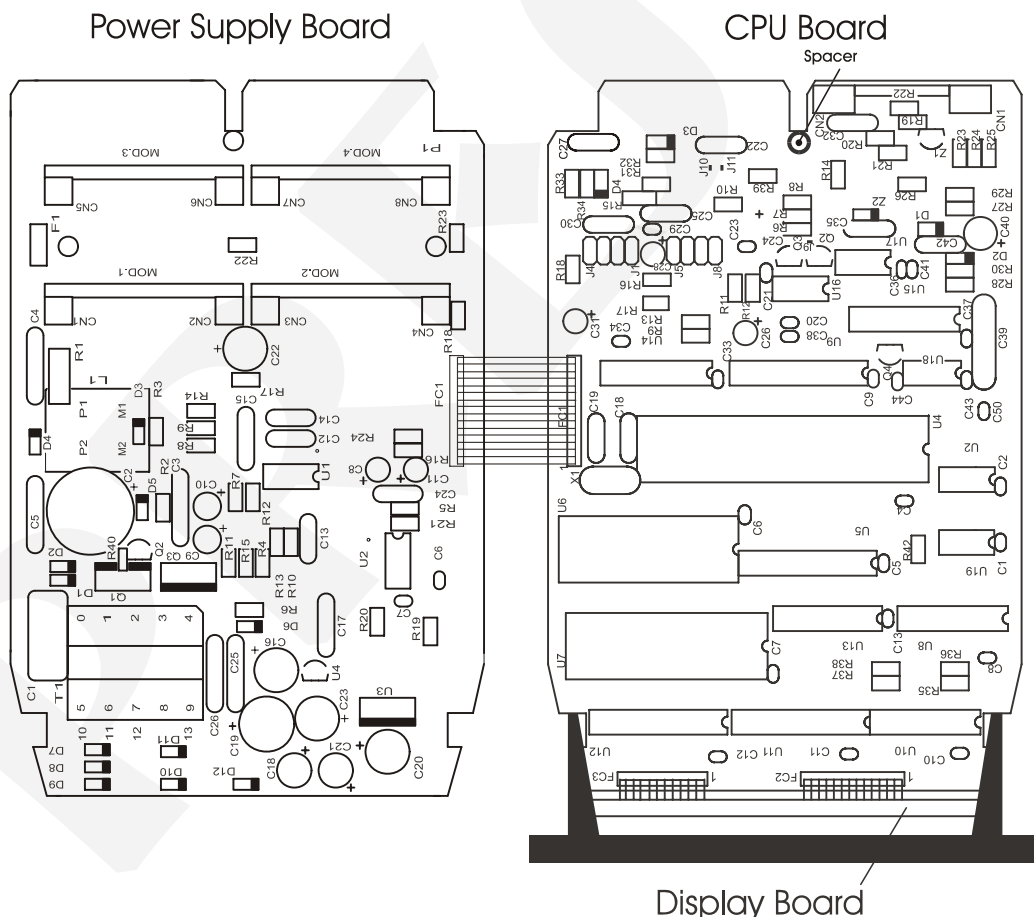

Fig. 16 - Instrument Hardware
- iii) Disengage the upper circuit board toward the right and open the circuit boards as shown on figure 16.